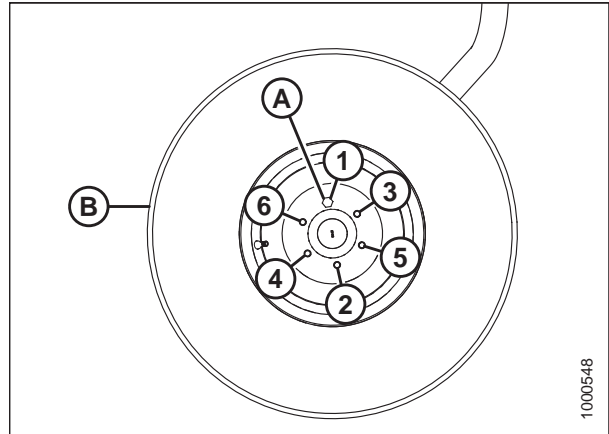

Figure 5.229: Formed Caster Wheel Nut Tightening Sequence
Wheel bolt (A) tightening sequence for a formed caster wheel (B) shown in Figure 5.229, page 420.